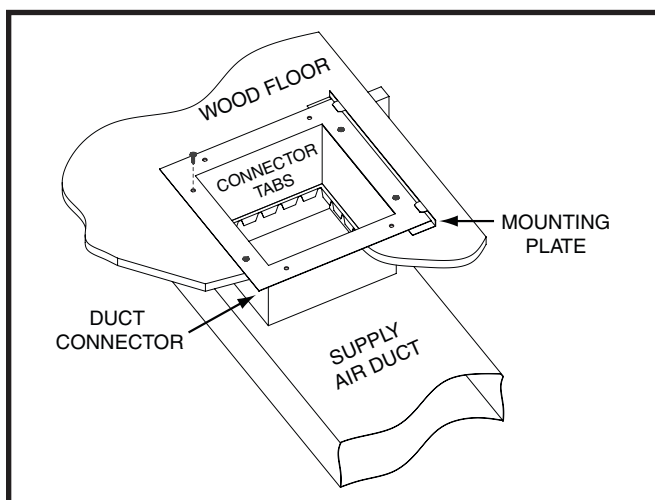

Figure 7. Standard Duct Connector Installed
Duct connectors are recommended for heated air distribution in under-the-floor duct systems. With this system, furnaces may be installed on combustible flooring without a separate sub-base. The furnace rear mounting plate (Figure 7 (page 8)) supplied with the duct connectors is recommended for use with this type of installation.
2. Mark the cut-out area on the supply air duct by tracing around the connector tabs of the duct connector. See Figure 7.
5. Install the mounting plate (Figure 7) under the back side of the duct connector. Align the screw holes in both components.